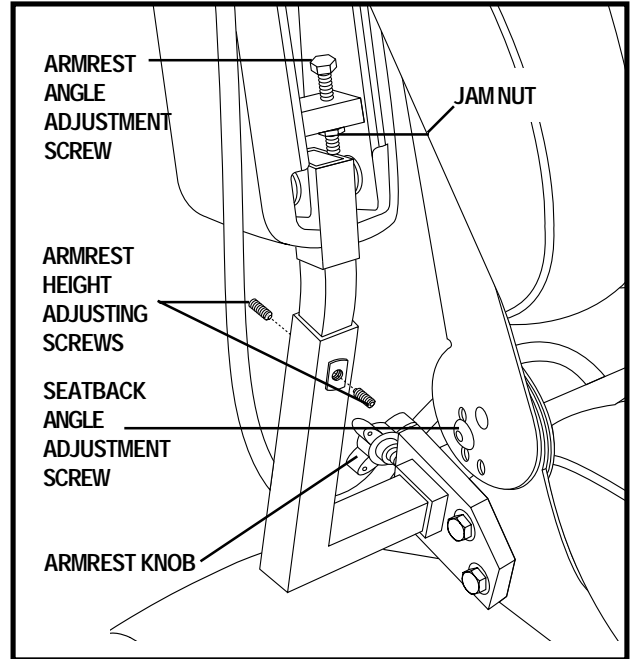

Figure 16. Seatback and Armrest Adjustments
1. Remove the adjustment screws on both seat hinges. See figure 16.
1. Locate the two armrest knobs on each side of the armrest receiver bracket. See figure 16.
2. Loosen the jam nut. See figure 16.